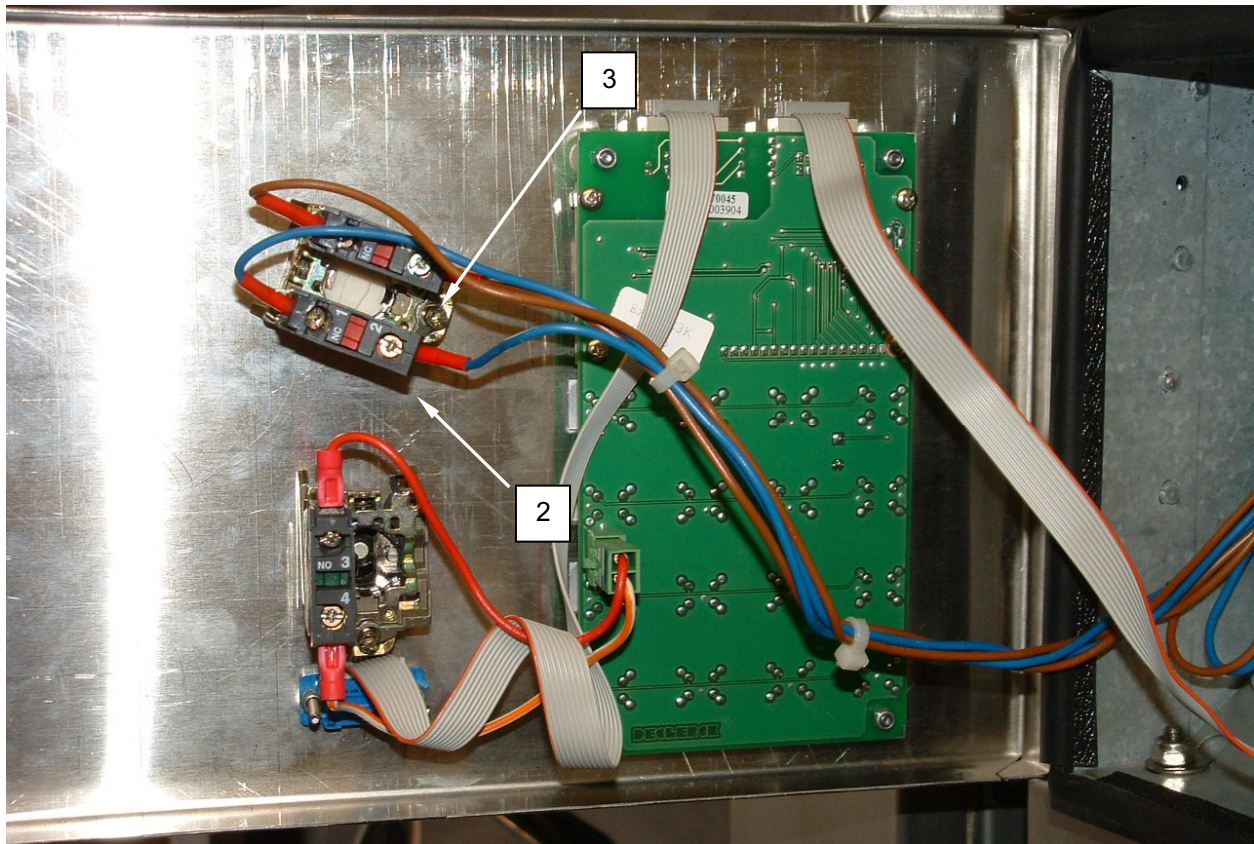

Figure 2. Replace the Washer Emergency Stop Switch.
2. Unlock and open control panel (**Figure 2, Item 1**).
3. Tag and disconnect wiring from switch (**Figure 2, Item 2**).
4. Loosen the screw (**Figure 2, Item 3**) securing the retaining catch (**Figure 3, Item 4**).
6. Install the halves of the replacement switch (**Figure 3, Item 2**), into the control panel (**Figure 2, Item 1**), and lock halves together.
7. Tighten the screw (**Figure 2, Item 3**) securing the retaining catch (**Figure 3, Item 4**).
9. Close and lock control panel (**Figure 2, Item 1**).